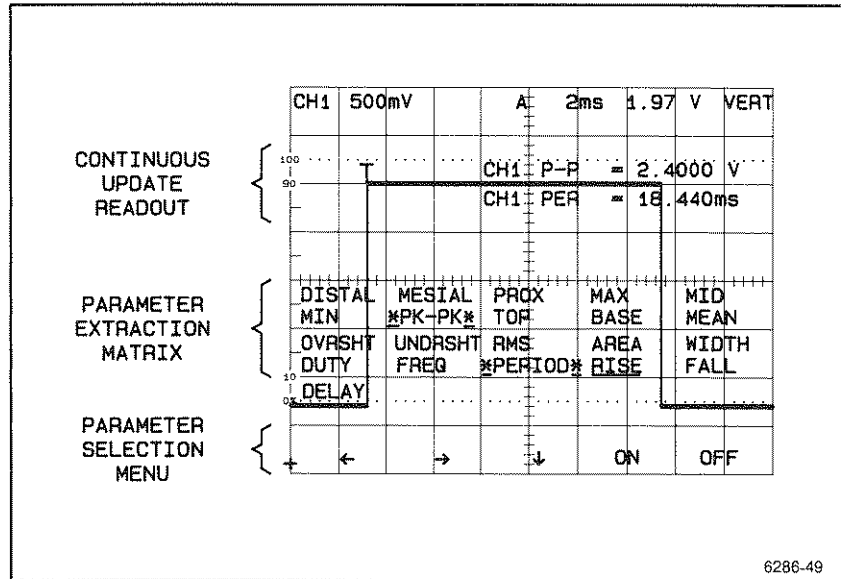

Figure 3-22. Continuous-Update mode for MEASURE.
5. Once the desired parameter is underlined, push ON in the menu to turn that parameter on. When on, the parameter will be bracketed with asterisks ("**"). (See Figure 3-22. The parameters PK-PK and PERIOD are on; RISE is selected but presently turned off.)